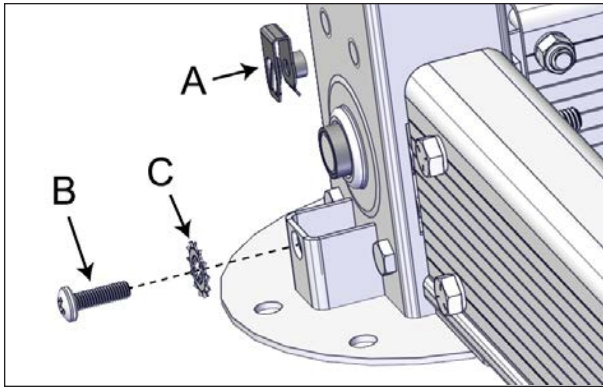

FIGURE 42: CLIP-ON BARREL NUT INSTALLATION
19. Install the clip-on barrel nuts at the bottom of the non-motor-side jack assemblies to hold the sleeves in the bottom. Use Phillips M6 x 20 mm screws and 1/4" int./ext. tooth lockwashers. Only the non-motor-side jack assemblies need clip-on barrel nuts to be installed, see Figure 42.